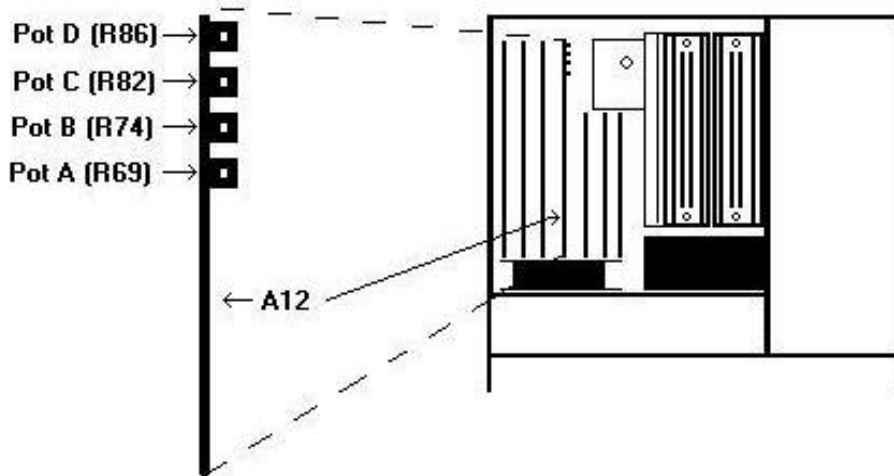

Figure 3. I/O adjustment location.
- (1) Adjust A12 pot A (R69) (fig. 3) for a -2.0000 ± 0.0005 V dc multimeter indication (R).
- (2) Adjust A12 pot B (R74) (fig. 3) for a 2.0000 ± 0.0005 V dc multimeter indication (R).
- (3) Adjust A12 pot D (R86) (fig. 3) for a -2.0000 ± 0.0005 V dc multimeter indication (R).
- (4) Adjust A12 pot C (R82) (fig. 3) for a -2.0000 ± 0.0005 V dc multimeter indication (R).